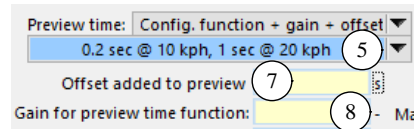

Figure 21. Appearance when a Configurable Function is selected.
When the drop-down list is set to **Configurable function** or **Config. function + gain + offset** a link is displayed under the drop-down control (Figure 21). The linked dataset is for the Configurable Function named TPREV, which is used internally to calculate preview time T varying with speed. When the option is set to **Config. function + gain + offset**, additional yellow fields are shown for the offset (7) and gain (8).